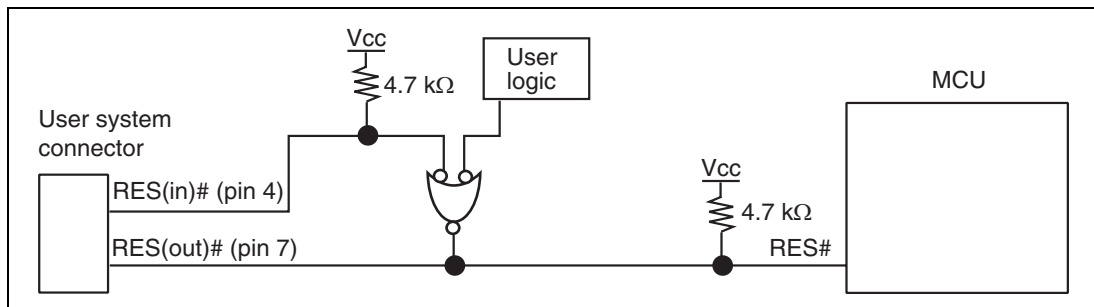

Figure 1.6 Connection of Pin RES#
3. RES(in)# of pin 4 of the user system connector is a signal line in which the emulator outputs signals to the MCU. RES(in)# of pin 4 and the user logic reset circuit for the signal line must be connected to pin RES# of the MCU as shown in figure 1.6. RES(out)# of pin 7 of the user system connector is a signal line in which the emulator monitors pin RES# of the MCU. The RES# must be pulled up before it is connected to pin 7 of the user system connector.